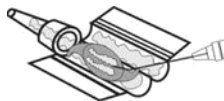

Fig.04
4. Applying a few drops of BS solution on the surface of the lens, as in Fig.04, will help to keep the lens in hydrated condition. As the lens is Hydrophilic in nature, this is helpful.